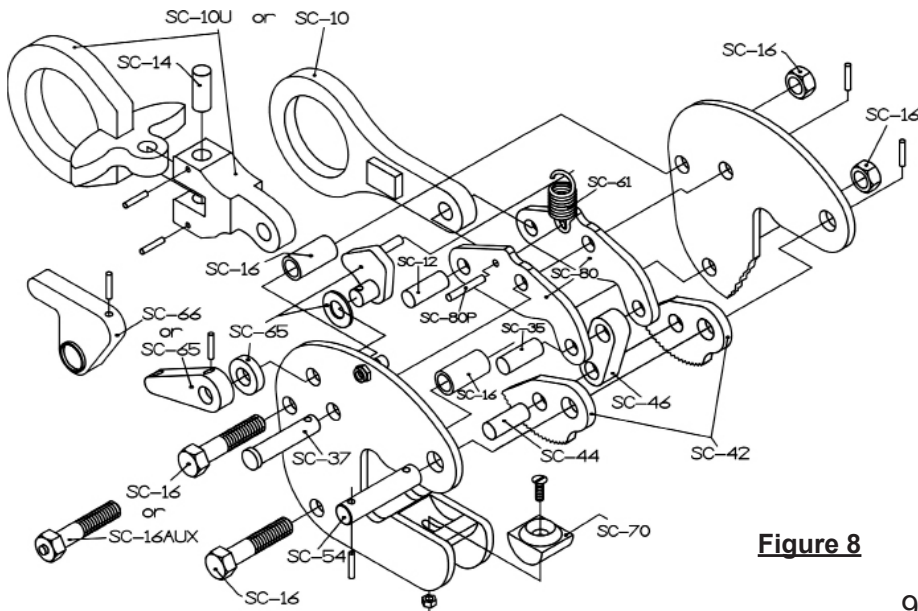

Figure 8
6. Inspect the gripping cam(s) (SC-50 or SC-42, Fig. 8) and gripping pad (SC-70, Fig. 8) for wear and defects. Gripping surfaces must be sharp and free of foreign matter.